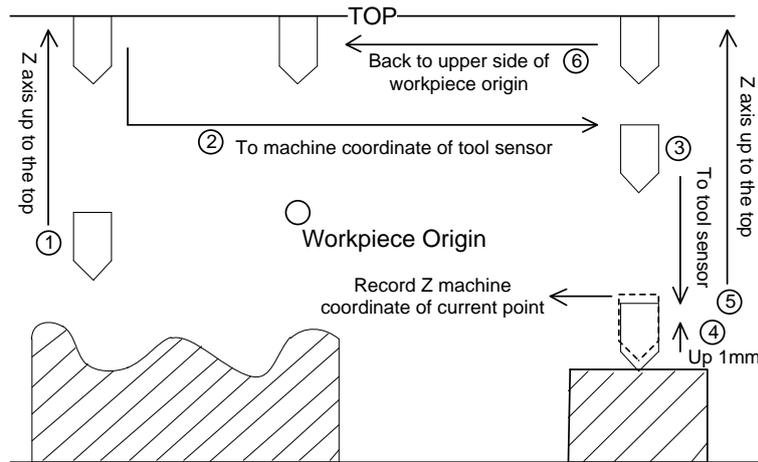

Fig. 3-27 First Presetting
- Secondly, press F6 [Tool Cali], and then press F1 [First Cali] to execute the first calibration in the new pop-up manipulation button bar, and then the system will record the current workpiece coordinate value of Z axis automatically, as shown in Fig. 3-27. The system ends this process automatically.